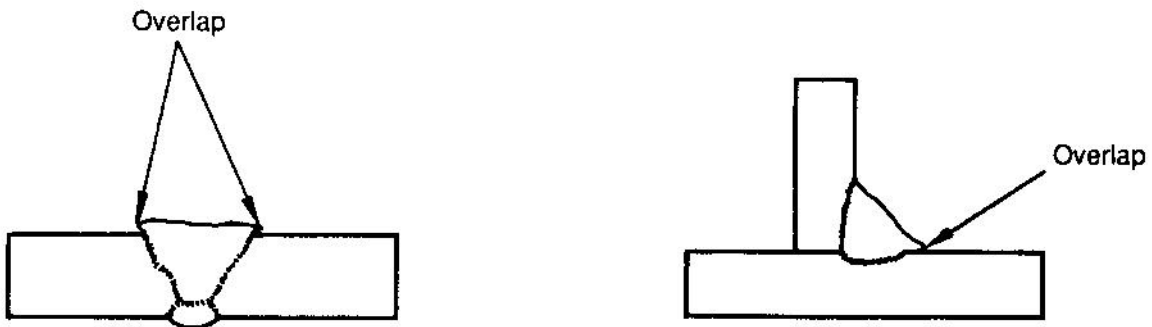

Figure 3-5 Overlap
(6) Overlap (fig. 3-5): Examine carefully the toes of the weld where the weld width is excessive to determine whether the weld metal is fused to the parent metal. If there is no fusion, the weld metal will be built up slightly above the parent metal, thus presenting a notch effect that may be undesirable. Unlike manual welding, overlap with automatic welding is likely to be regular and thus more difficult to detect.